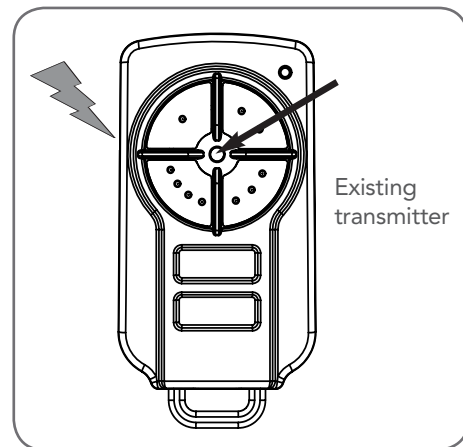

Fig 11.2
- Use a small pin to press and hold through the Coding Hole of the existing transmitter for 2 seconds (**Fig. 11.2**).